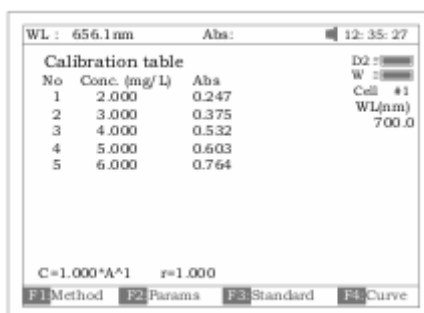

Fig.33
- 3.3.3 Pull the first sample cuvette of known concentration into the light path, Press the key **【START】** to get values of the standard curve one by one (Fig 33).
In Fig 33 press **【Load】** and then press **【0】** or **【7】** to select the file with type *****.fit**. At last press **【ENTER】** TO confirm.